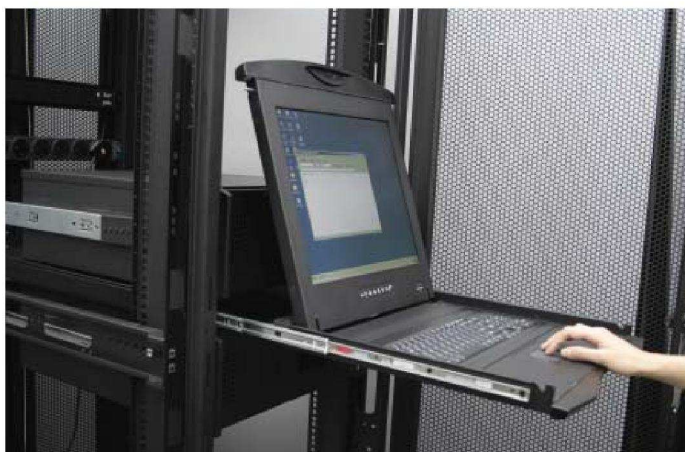

Figure 6. Operating the LCD keyboard drawer
- Operate the LCD keyboard drawer shown in **Figure 6**.